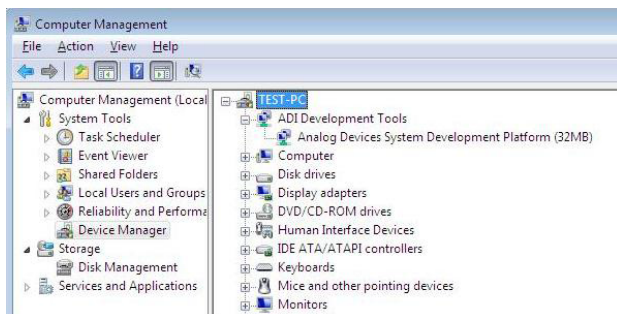

Figure 13. Device Manager:
- iii. The **Computer Management** box appears. Click **Device Manager** from the list of **System Tools** (see Figure 13).